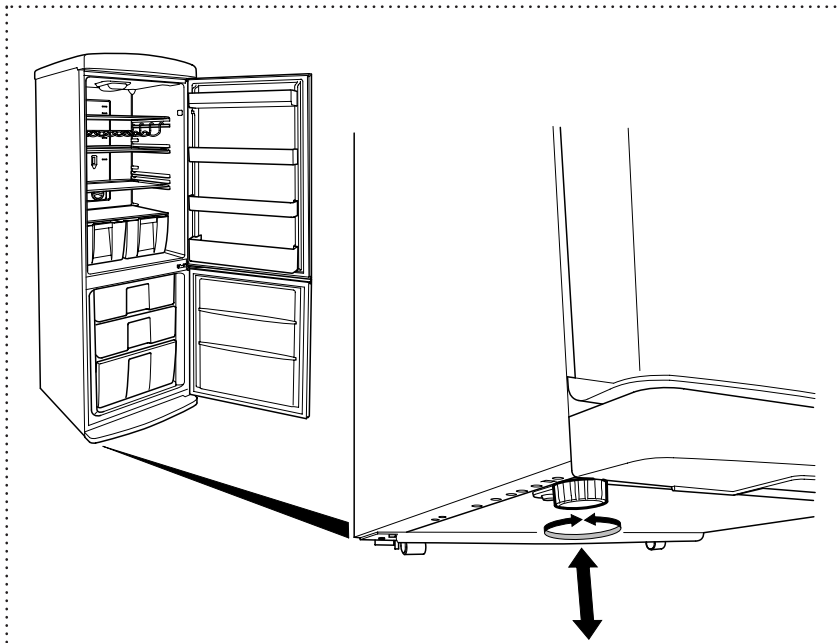

Figure 4
- 1 To increase the height of the Fridge Freezer, turn the feet clockwise (Figure 4).
- 2 To decrease the height of the Fridge Freezer, turn the feet anti-clockwise (Figure 4).